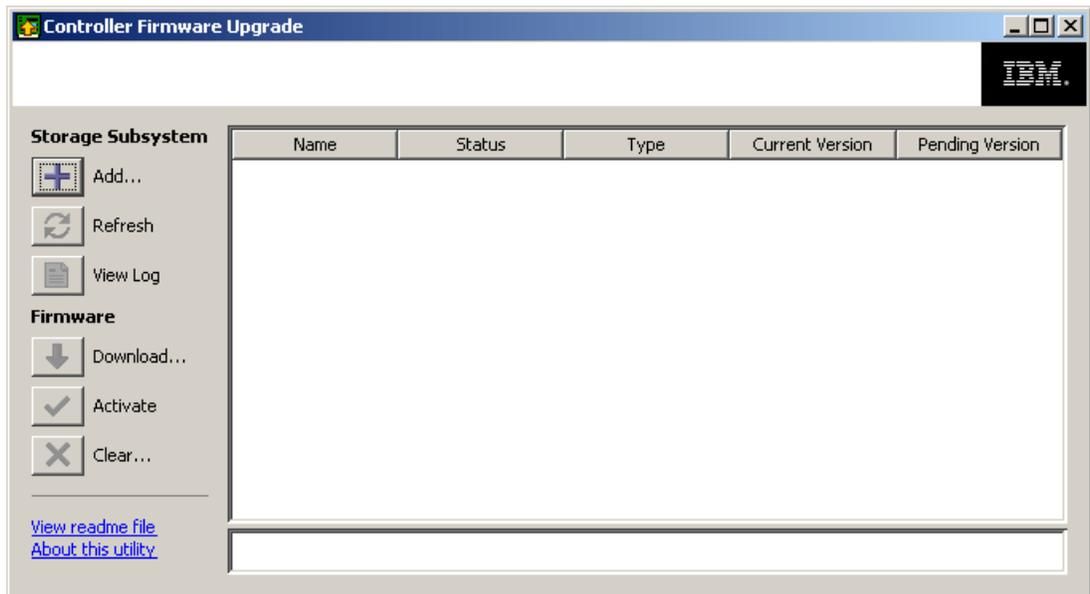

Figure 12-5 Firmware upgrade utility
1. Start the upgrade utility program. A window similar to the one shown in Figure 12-5 is presented.
4. Click the **Download** button in the left margin (Figure 12-5 on page 669) under firmware. This brings up a dialog window, as shown in Figure 12-8, where you can select the firmware source file previously downloaded.